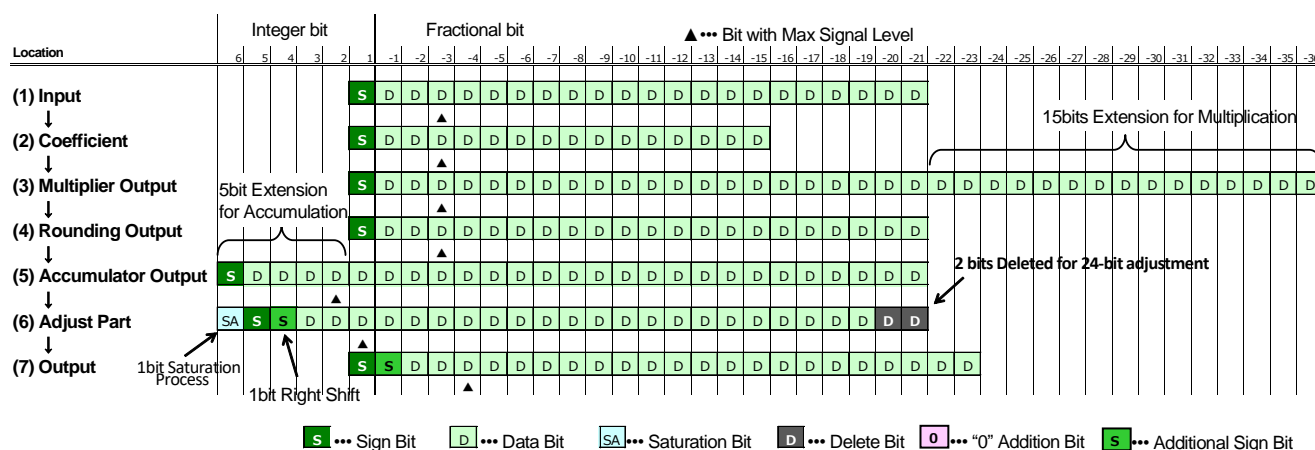

Figure 32. Programmable FIR Filter Calculation Example 2
- (1) Input bit length is (1.21). As shown in Figure 15, level diagram, the maximum input signal level of programmable FIR filter is -13dBFS at full scale range. Therefore, the maximum signal is at -3 Fractional bit (▲) in Figure 32.
- (2) Coefficient written by register setting. It has (1.15) bit length.
- (3) Multiplication result of (1) and (2). Input signal is extended 15 bits according to the bit length of the maximum coefficient.
- (4) Round the data off to 21 bits to reduce the circuit size.
- (5) Higher 5 bits are extended for accumulation. In this case, there is no excess bit since the maximum value of the absolute total coefficient is input. The maximum signal bit is shifted 2 bits to the left because the filter DC gain is 16 times larger (+24dB).
- (6) Execute saturation process. In this example, 1-bit saturation process is executed. LSB 2 bits are deleted to make the bit length to 26-bits after the saturation process. The data is shifted 1 bit to the right and added "0" to the MSB as PFIL_SIFT[2:0] bits are set to "111".
- (7) At final output, the decimal point is shifted 1-bit to the left and the data becomes (1.23). It expresses that the input signal is decreased by 6dB, and the digital filter total gain is -12dB (-19dBFS).